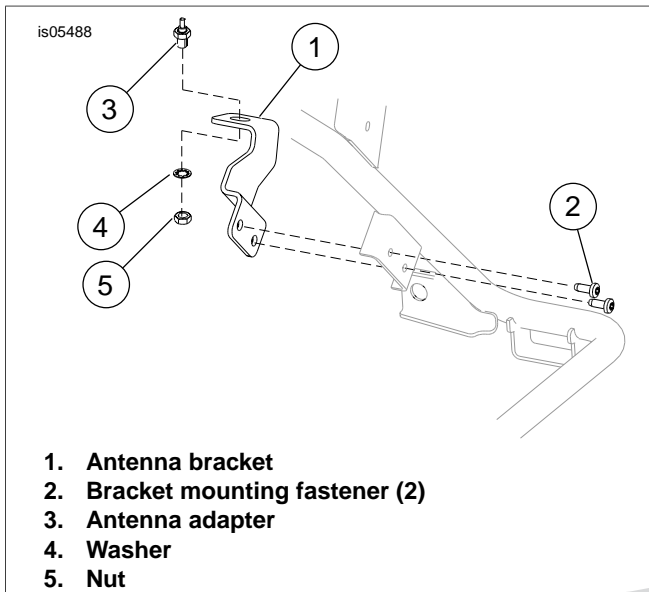
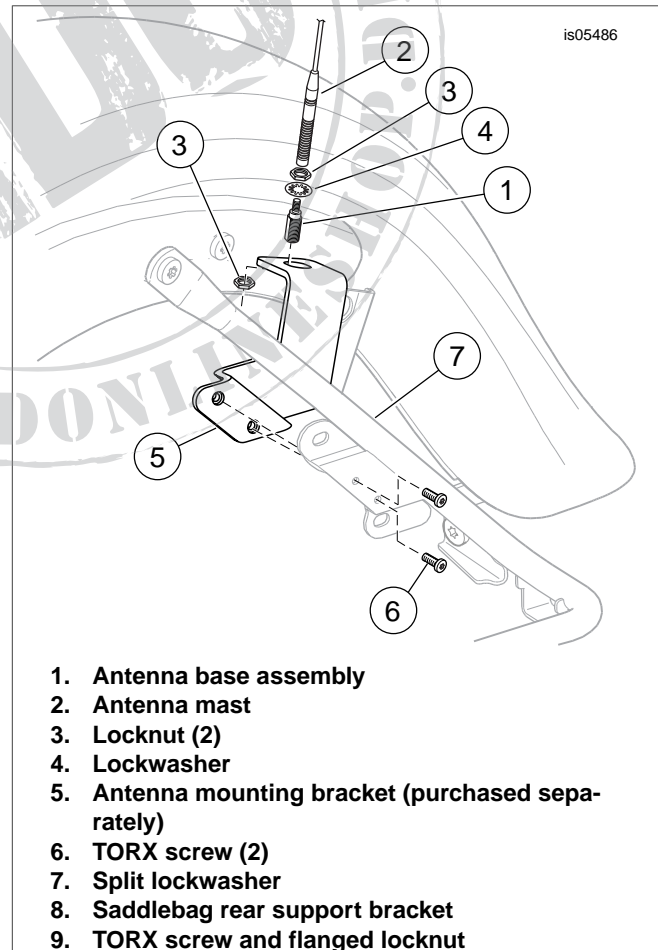
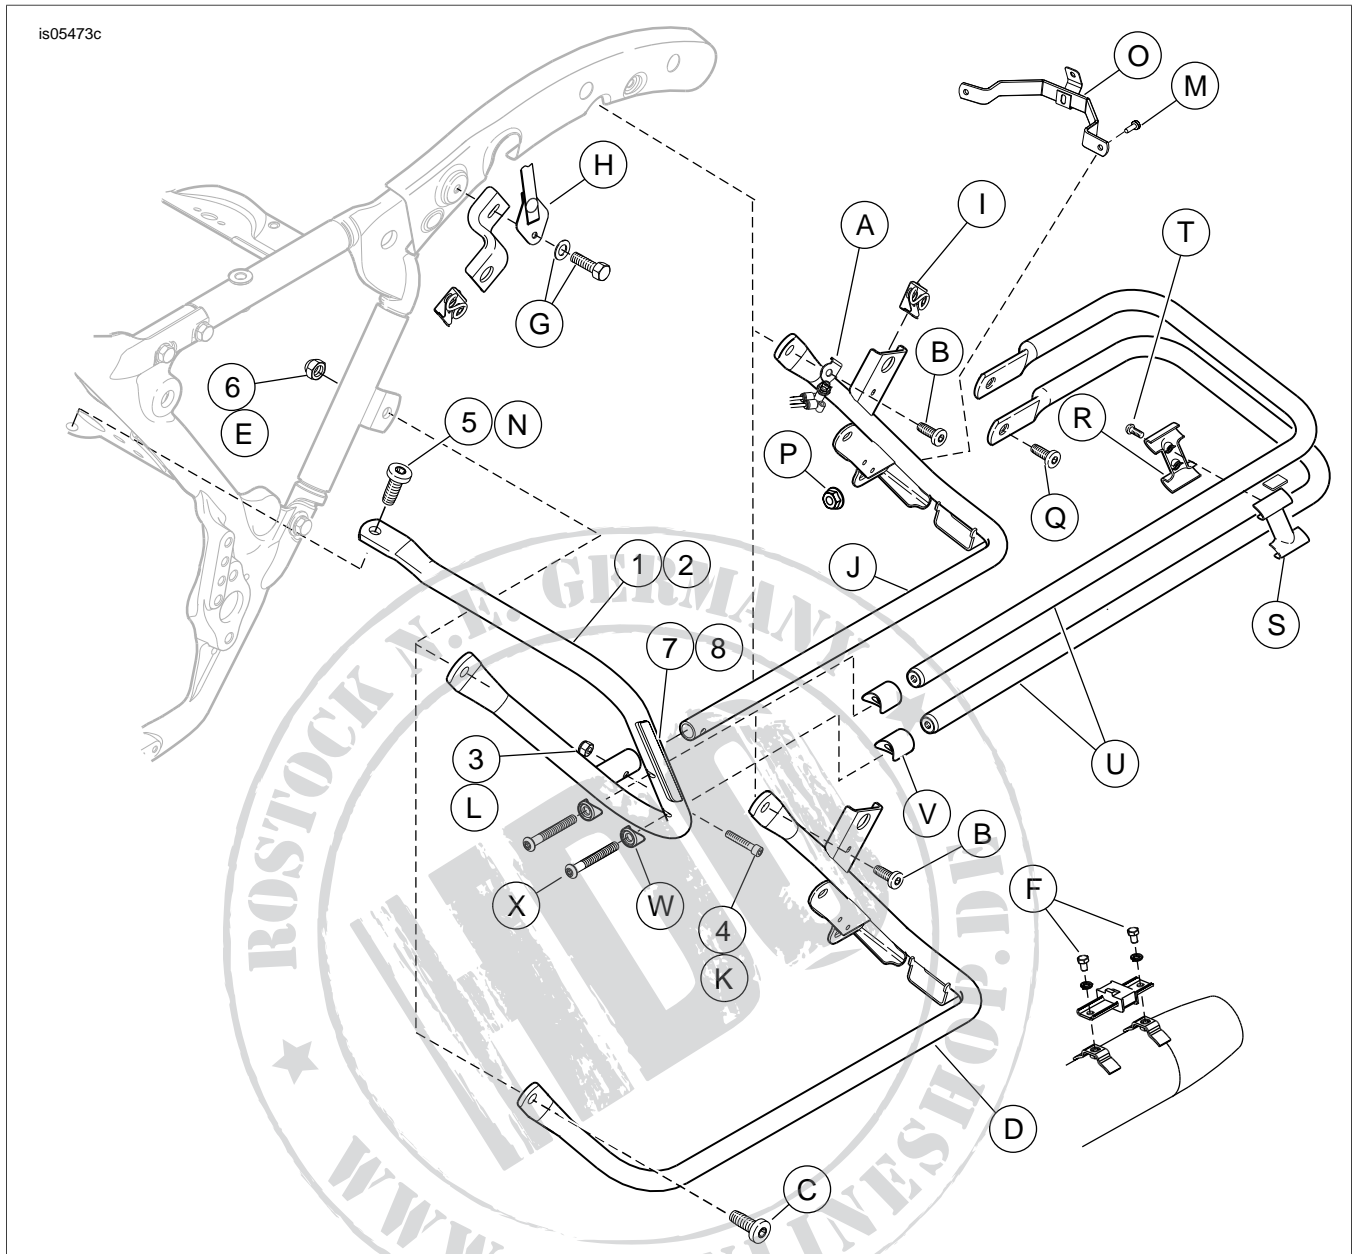

Figure 1. Remove Antenna and Bracket
Figure 2. Antenna Mounting Bracket
Figure 3. Service Parts: Saddlebag Guard Kit (Left Side Shown)
See Figure 3 and Table 1.
2. See Figure 3. Remove grab strap screw and washer (G). Remove grab strap (H). Remove seat following the instructions in the service manual.
1. See Figure 3. Remove the screws (F) securing saddlebag guards to muffler supports.
2. Remove bolt (M) and nut (P). Save bolt (M) for installation. Discard nut (P).
3. Remove screws (B, N and C) and nut (E). Save screws (B and C) for installation. Discard nut (E) and screw (N).
4. Remove stud receptacle (I) and save for installation.
5. See Figure 1. Remove antenna bracket (1), mounting fasteners (2), antenna mounting nut (5), washer (4) and antenna adapter (3). Save the antenna and hardware, discard the bracket.
6. Remove support (D) and discard.
1. **For FLTR and FLHX Models:** See Figure 3.
- a. Install the rear saddlebag support mounting screw (B) through the air suspension bracket (A) and saddlebag support (J). Install screw finger-tight.
- b. Install bolt (M) and nut (P) (purchased separately). Tighten finger-tight.
- c. Install stud receptacle (I) into saddlebag support (J).
- d. See Figure 2. Install antenna bracket (purchased separately) with hardware (removed earlier).
2. Install new forward saddlebag guard (1 or 2) onto saddlebag support (J).
3. Install screw (4) and nut (3). Tighten finger-tight.
4. Secure forward saddlebag guard with upper bolt (5) and lower bolt (C) with nut (6). Tighten finger-tight.
5. Tighten the forward guard upper screw (5) to 32-36 ft-lbs (43-49 Nm).
6. Tighten the lower screw (C) and nut (6) to 32-36 ft-lbs (43-49 Nm).
7. Tighten saddlebag support screw (4) and nut (3) to 70-100 **in-lbs** (8-11 Nm).
- a. Tighten the rear saddlebag support mounting screw (B) to 15-20 ft-lbs (20-27 Nm).
- b. Tighten fender bracket screw (M) and nut (P) to 15-20 ft-lbs (20-27 Nm).
- c. Install muffler with screws (F) and remove wooden support. Tighten screws to 96-144 **in-lbs** (10.8-16.3 Nm).